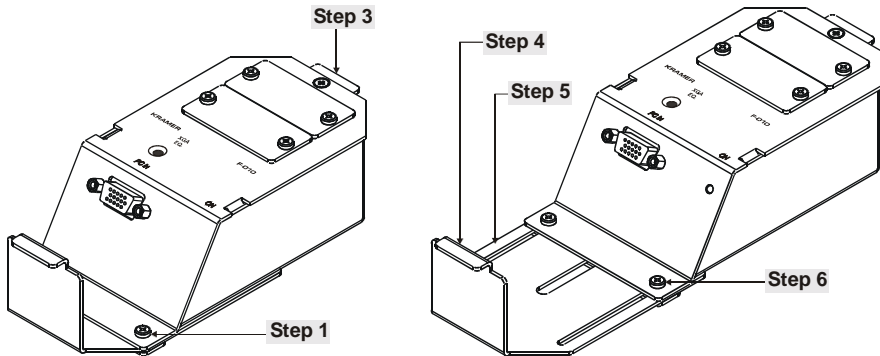

Figure 4: Installing the F-010 XGA Line Amplifier Mounting Box
To install the **F-010** inside the Ackermann floor box, as illustrated in Figure 4, perform the following steps:
- Step 2. Fit the **F-010** mounting box into its designated place inside the Ackermann floor box (not shown in Figure 4, see Figure 5).